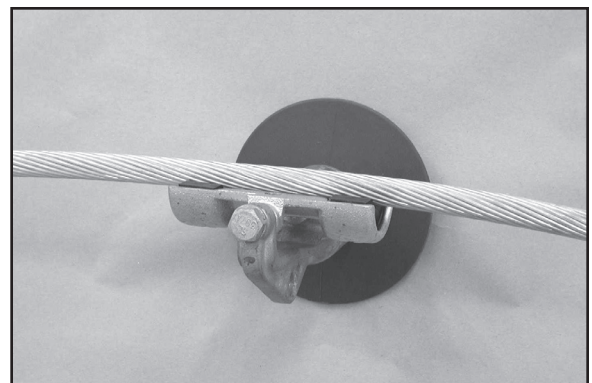

FIGURE 3 - INSERT CONDUCTOR
2.03 Lay conductor in the groove of the clamp base. (Figure 3)